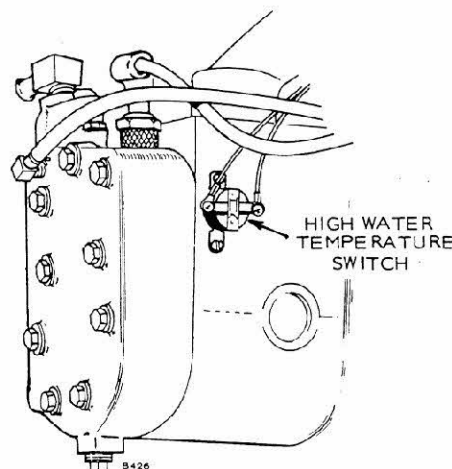

FIGURE 24. HIGH WATER TEMPERATURE SWITCH
**High Water Temperature Cut-off Switch:** This normally closed switch (Figure 24) senses water temperature in the engine cooling jacket. The switch opens, breaking the circuit to the coil primary when the water temperature reaches about 230° F (110° C) and closes when the temperature drops below 190° F (88° C).